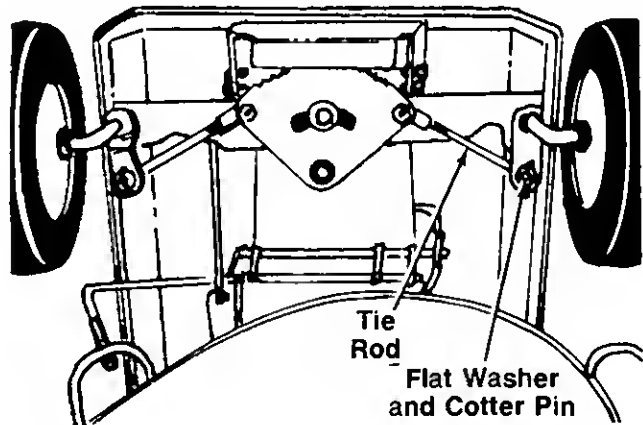

FIGURE 23.
The caster (forward slant of the king pin) and the camber (tilt of the wheels out at the top) require no adjustment. Automotive steering principles have been used to determine the caster and camber on the mower. The front wheels should toe-in $\frac{1}{8}$ inch. See figure 23. To adjust, follow these steps:
1. Remove the cotter pin and flat washer which hold the tie rod to the axle bracket. See figure 23.